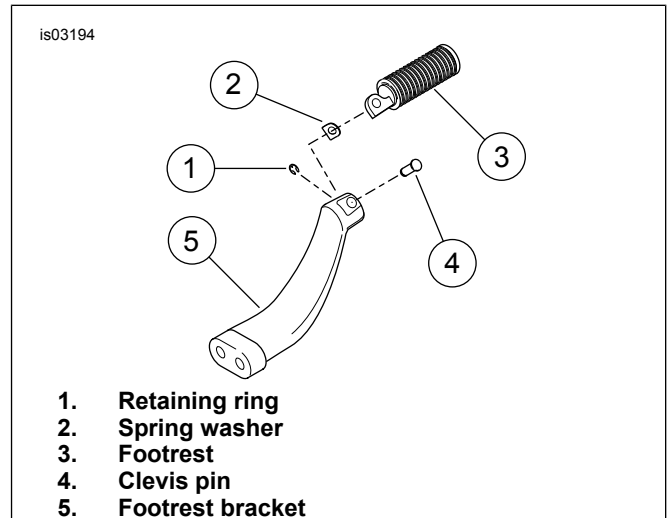
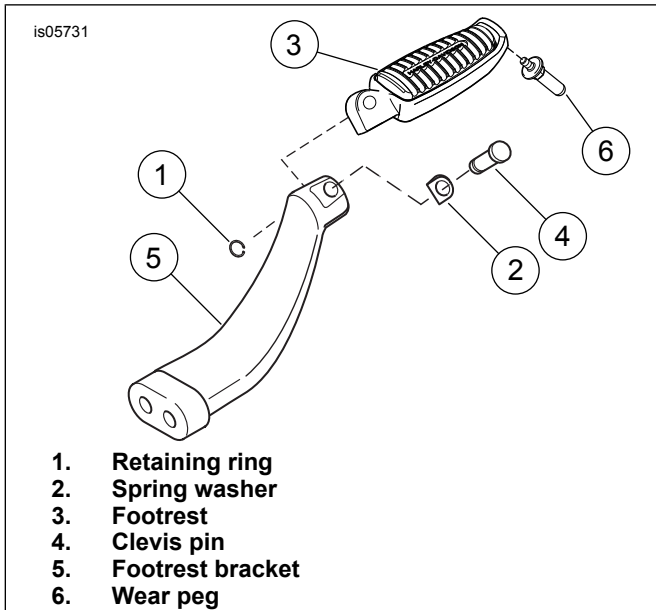

Figure 2. Remove Left Footrest - All Models except XL883L and XL1200N
Figure 3. Remove Left Footrest - XL883L and XL1200N Models
4. See Figure 2 and Figure 3. Remove the retaining ring (1) from the clevis to free the footrest clevis pin (4). Remove the clevis pin and footrest (3) from the footrest support. Discard retaining ring, clevis pin, spring washer and footrest bracket. **For All Models Except XL1200L:** Save footrest for installation. **For XL883L and 1200N Models:** Remove and discard wear peg (6). **For XL1200L Models:** Discard footrest.